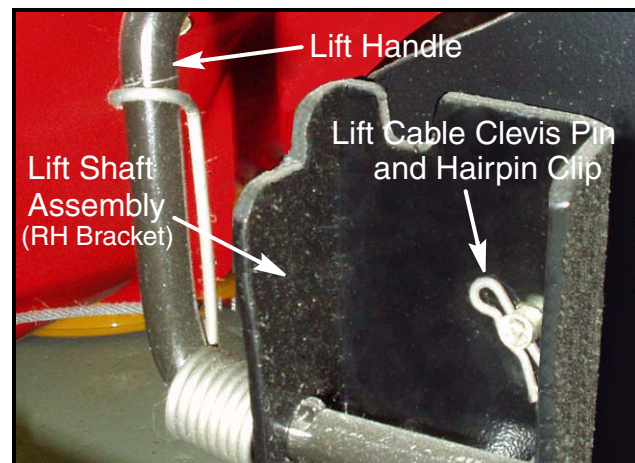

FIGURE 2
- At the lift shaft assembly (from now on to be referred to as "lift shaft" only), remove and retain the hairpin clips from the clevis pins securing lift cables to the lift shaft brackets. See Figure 2.